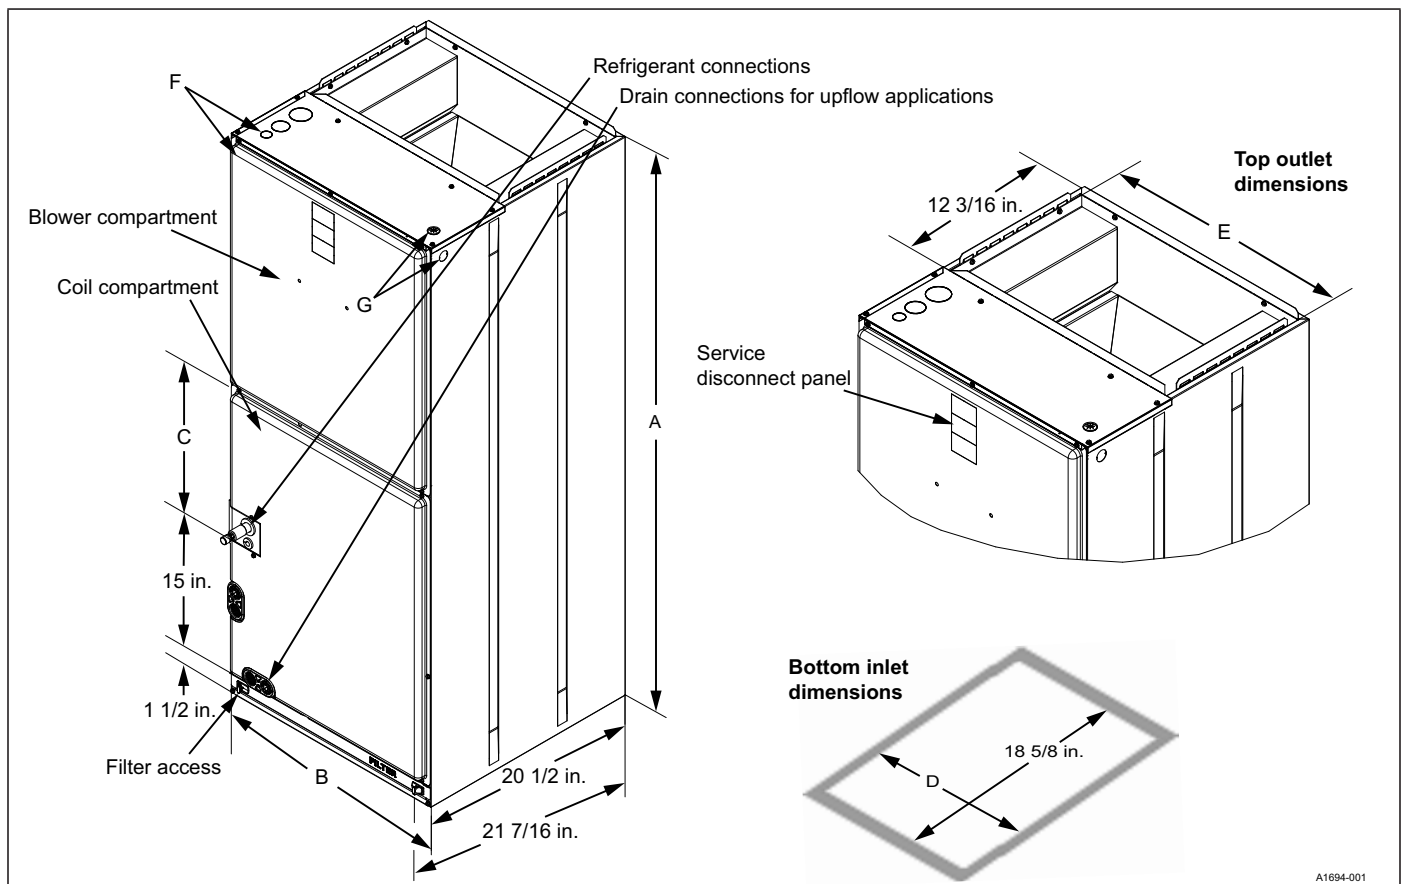

Figure 3: Dimensions and duct connection dimensions
7. The unit rating plate displays the air handler model number. The unit dimensions for the supply air plenum are provided in **Figure 3** and **Table 1**. Always install the plenum according to the instructions.